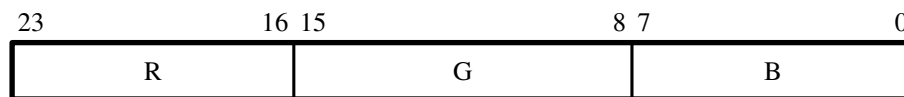

Figure 10. 24-bit RGB Color Space.
- 24-bit RGB — This format uses 8 bits for each color as shown in Figure 10. This mode is defined as 8 bits per symbol and three symbols per beat.